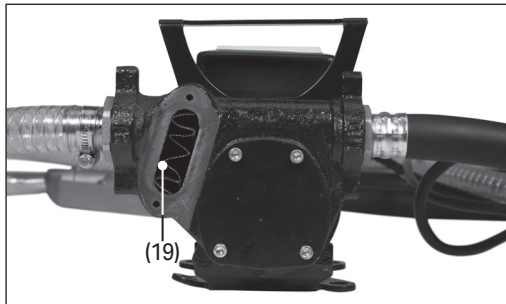

Fig. 9
2. Peel the rubber seal away from the opening and remove the filter (19) from the cavity (Fig. 9).